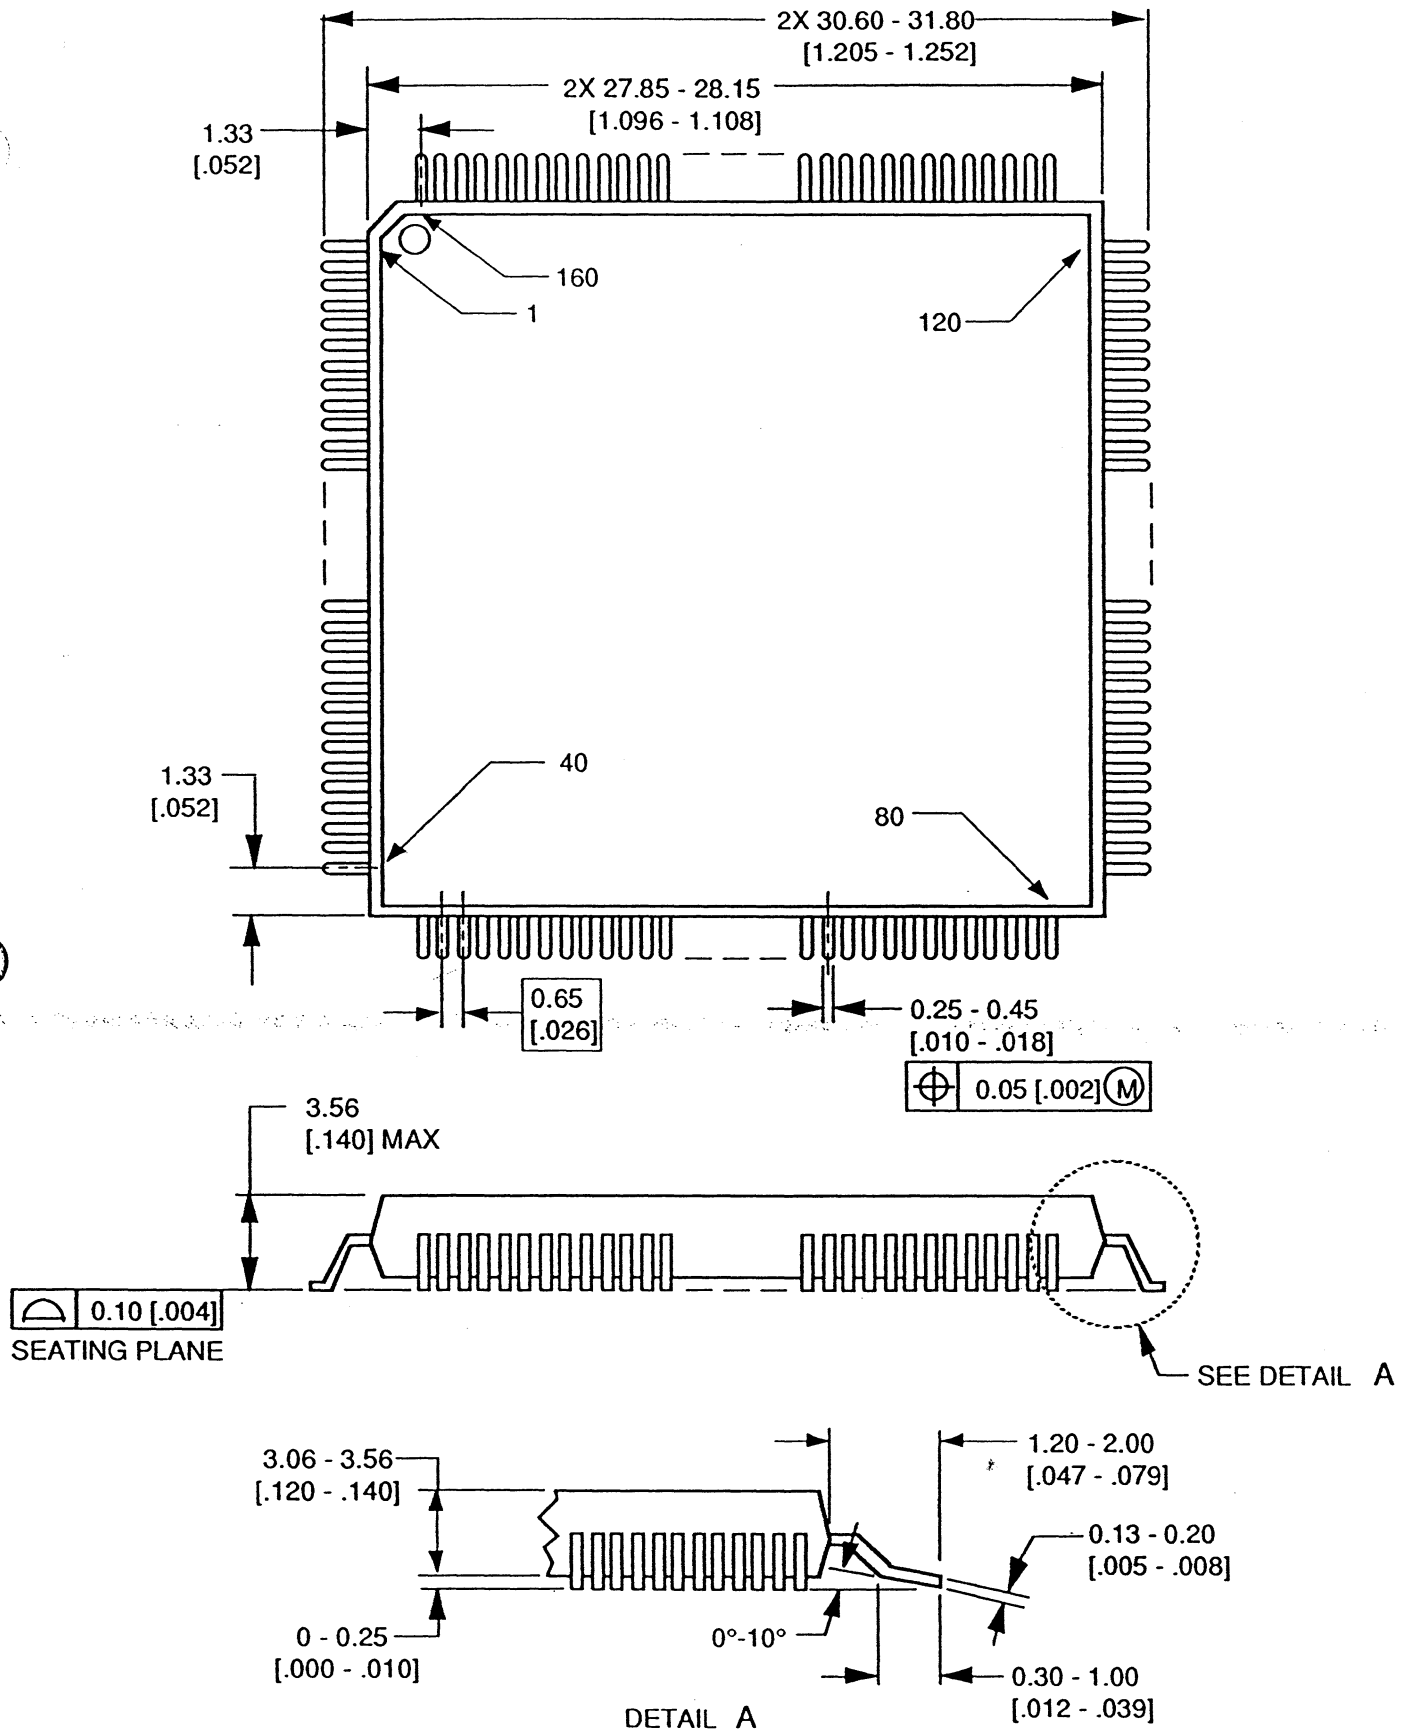

FIGURE 3. DIMENSIONS
3.1.1 PACKAGE: Void free plastic 160-pin PQFP package. Dimensions per Figure 3.